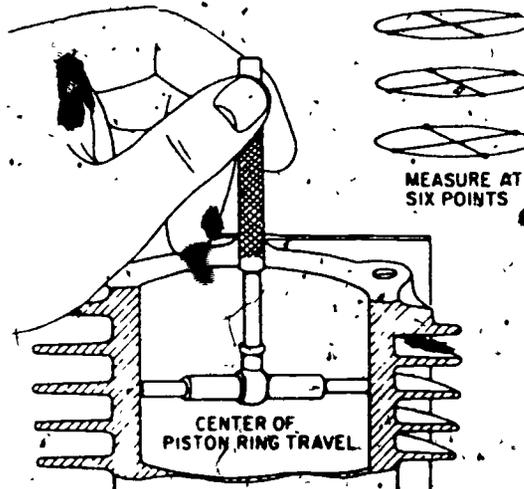

FIGURE 2
1. Take measurements at top, center, and bottom of ring travels both parallel and at right angles to the crankshaft (Figure 2)